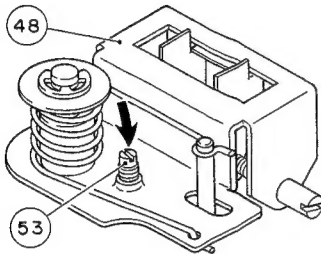
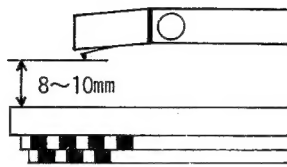

Figure 19
Figure 20
1. Remove the case top according to DISASSEMBLY INSTRUCTIONS (B) (page 3).
2. Turn the Screw (53) described in Fig. 19 so that the clearance between stylus and turntable platter will be within 8 ~ 10 mm when the tonearm is in up position (Fig. 20).